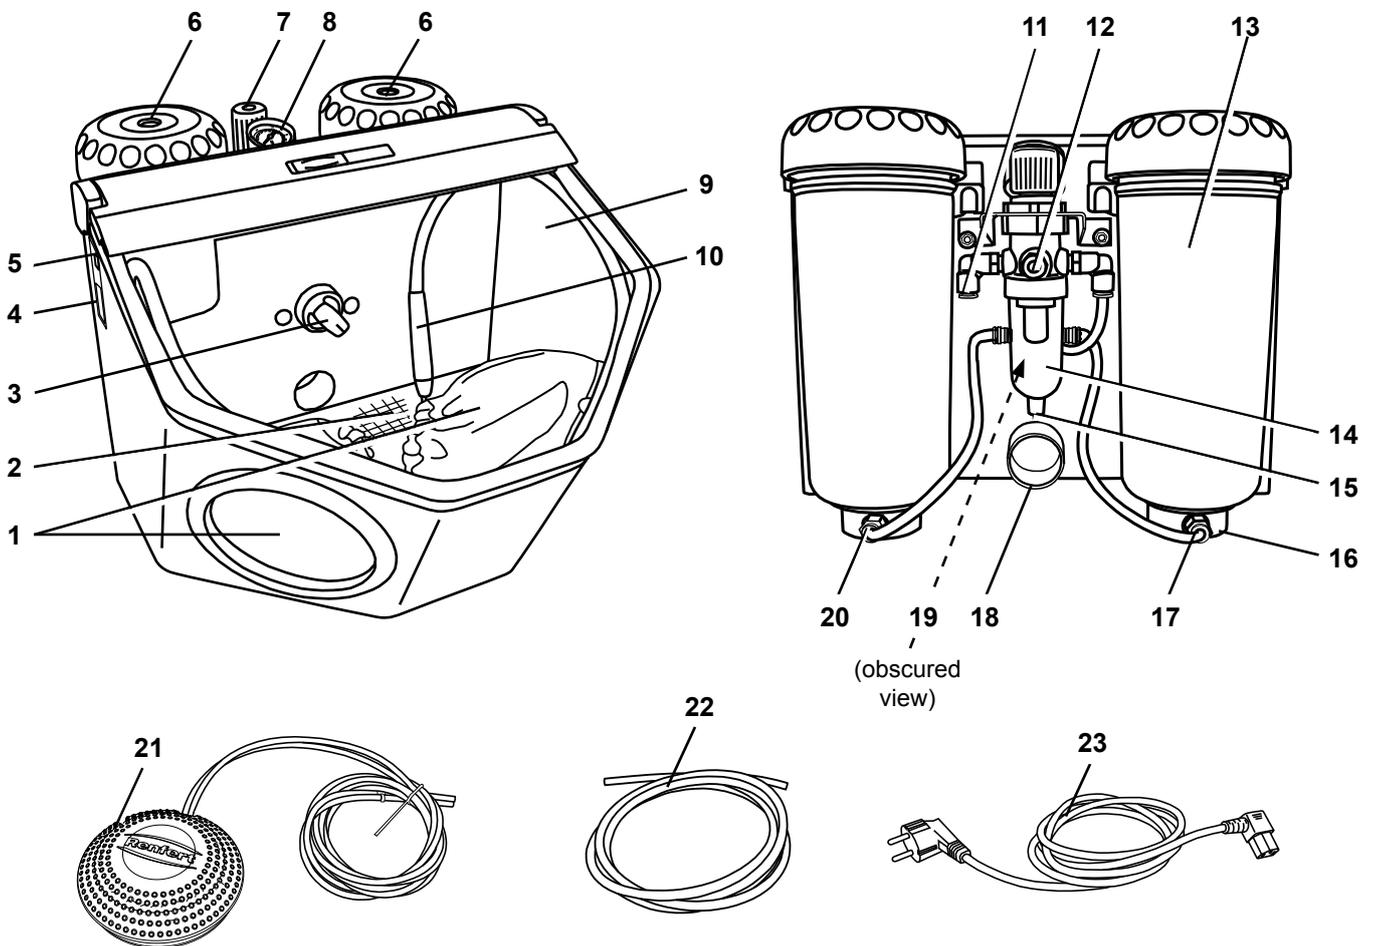

Fig. 1
- ⇒ Insert the end of the tube marked with an „A“ (21) as far as it will go into the tube connection point also marked with an „A“ (11) on the blasting unit.
- ⇒ Insert the end of the tube marked with an „B“ (21) as far as it will go into the tube connection point also marked with an „B“ on the blasting unit.
- 2-tank version: (19)
- 1-tank version: (20, Abb. 1)